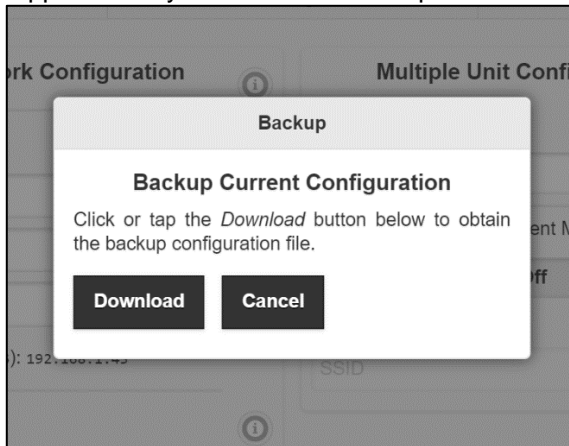

Figure 7-3 – Backup Dialog
- “*Backup Configuration*” – Clicking or tapping this button will open a prompt (see **Figure 7-3** below) to download a file consisting of all currently saved system settings.